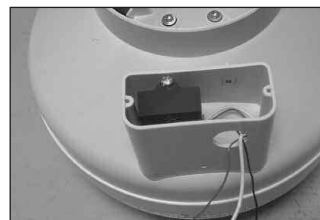

Fig. 9
Step 6: Make electrical connection to fan (Fig. 9).